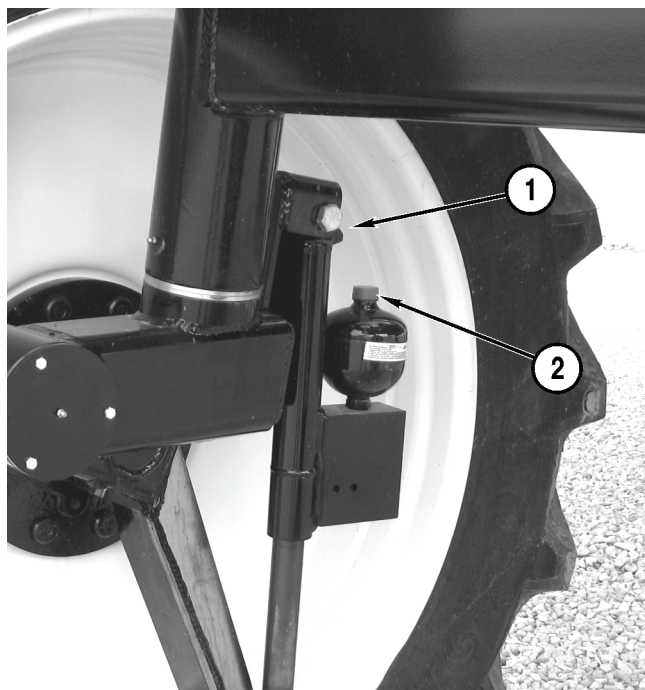

Figure 5-43
2. Remove the plug (**Figure 5-43, 1**) from the front of each front accumulator and check the fluid level. The fluid should be level with the bottom of the fill hole.
6. Remove the cap (**Figure 5-43, 2**) and install a nitrogen valve and gauge on the accumulator.